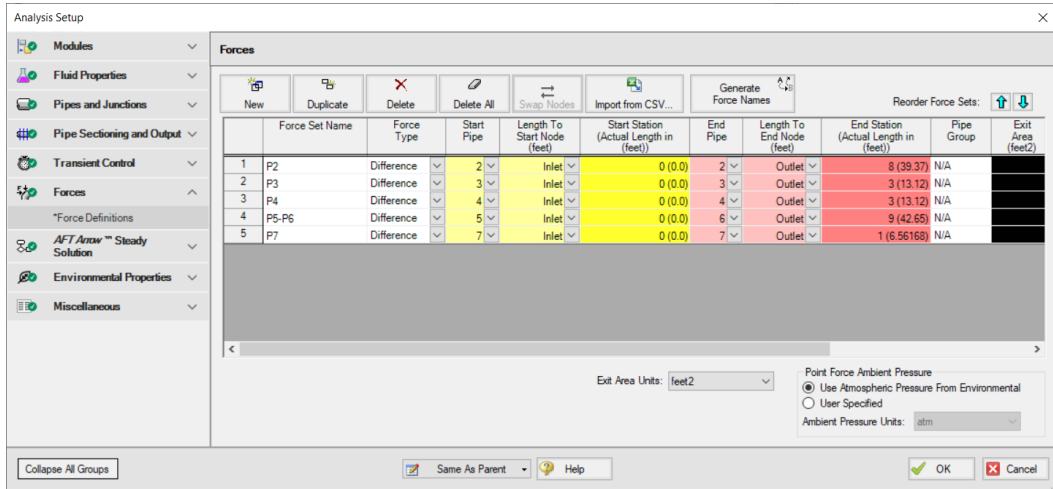

Figure 5.4 Completed Forces panel in the Analysis Setup window
- **Define a force set by clicking "New"**, selecting the Force Type (in this example, we will be using "Difference"), entering a name, and defining the starting and ending locations of the force set. Set up the force sets as shown in Figure 5.4. Click OK to exit the Analysis Setup window.
Figure 5.4. Select "Run Model" from the Analysis menu. This will open the Solution Progress window. This model has an estimated run time of 1 minute, but the run time is dependent on the speed of your computer.